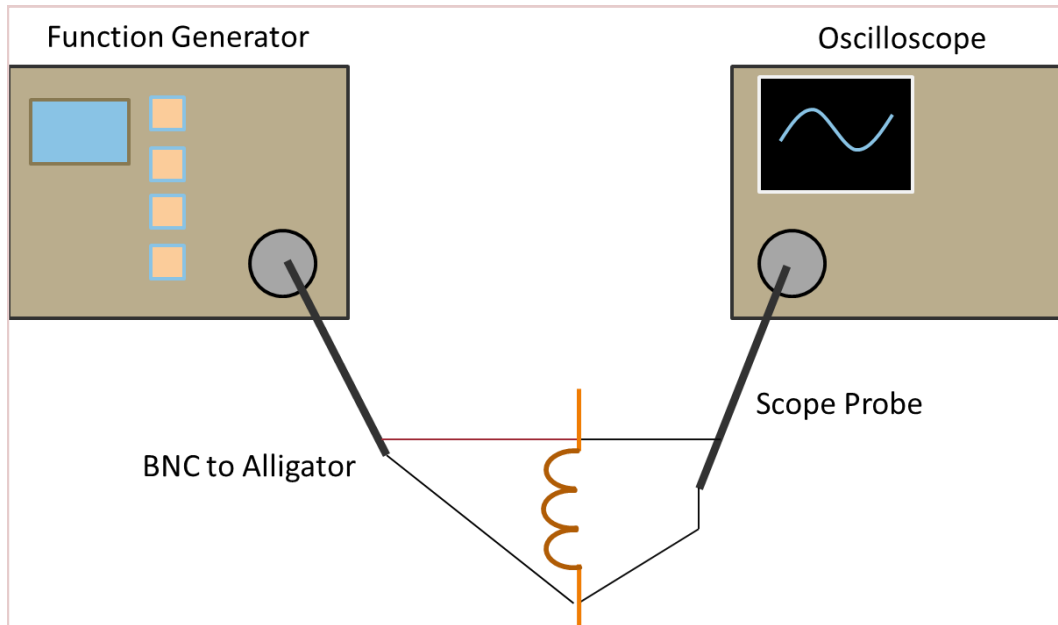

Figure 8. Test set-up for Postlab #1
2. Simulate the schematic shown in Fig. 8. Replace the “?” with the inductor values you have calculated. Make sure to also change the input frequency. Verify your hand calculations with your transient analysis plots. **(Schematic, Plots)**
5. Use a 50-ohm BNC to alligator clip cable and connect the output of the function generator to the inductor you are testing. Connect the oscilloscope probe to the inductor as well. Adjust the frequency until the peak-to-peak measurement on the screen is equal to the output amplitude setting on the function generator (1 volt peak-to-peak). Disconnect the inductor and verify that the output voltage doubles. This indicates that the inductor does indeed have a 50 ohm reactance at that frequency. The test set-up is shown in Fig. 8.
2. Place the inductor in the test set-up from Fig. 8. Follow the procedures in Postlab #1 to calculate the reactance of the ferrite bead. For example, at 10 MHz, you could measure the voltage drop and use that to calculate its reactance at that frequency. Convert this reactance to an inductance value. **(Hand calcs)**